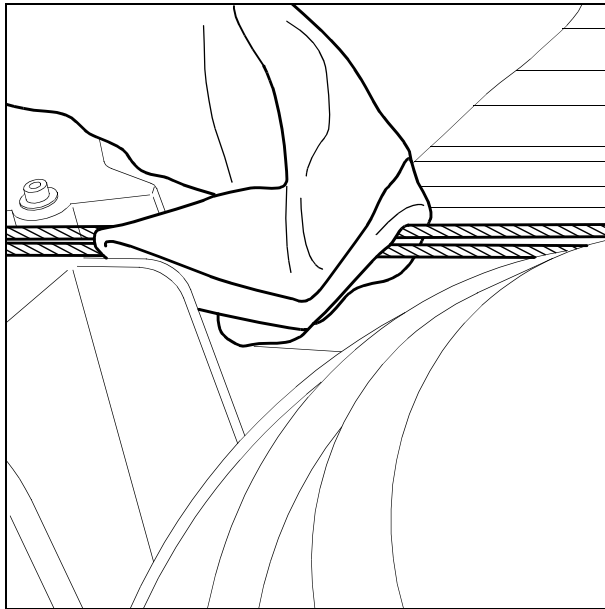

Fig. 12
- To do this, let the steel cables run through a cleaning cloth as shown Fig. 12, broken strands and cable damage are indicated by any caught fibers.